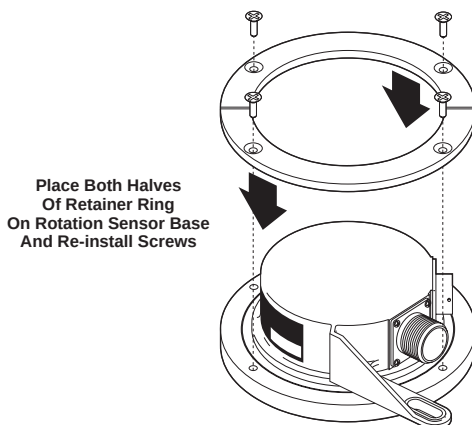

Figure 11-6. Replace Retainer Rings
8. Place the two halves of the retaining rings on the base plate with the screw holes aligned and replace the four screws (Figure 11-6). Tighten until firm.